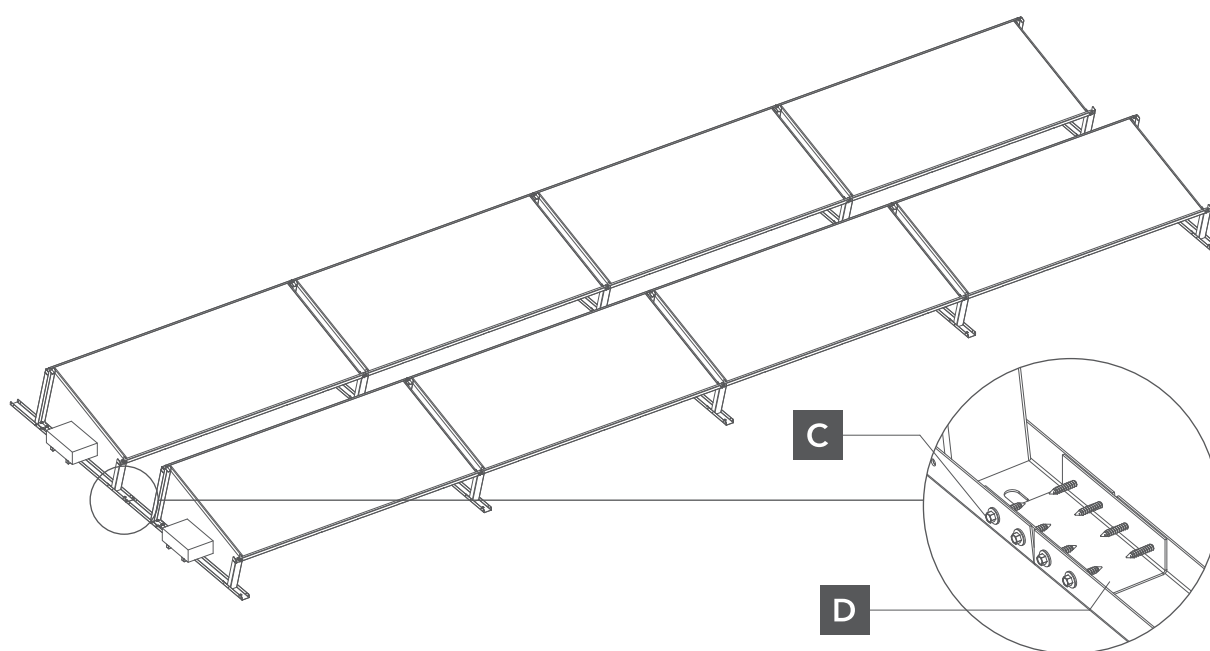

Fig. 5 Triangular arrangement with 1 bar.
- 5** If two or more rows of photovoltaic panels are required, the mounting triangles must be connected using a template (Fig. 5).